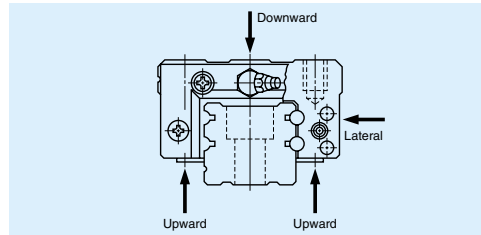

Fig. II-2*3 Radial rigidity
- 2) Moment rigidity: Three moment directions -- pitching, rolling, and yawing (Fig. II-2*4).